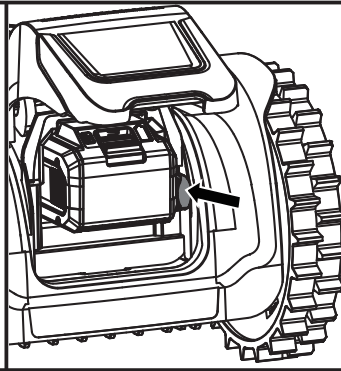

Fig. 2
4. Insert the safety key into the keyholes located near the battery compartment (Fig. 2).